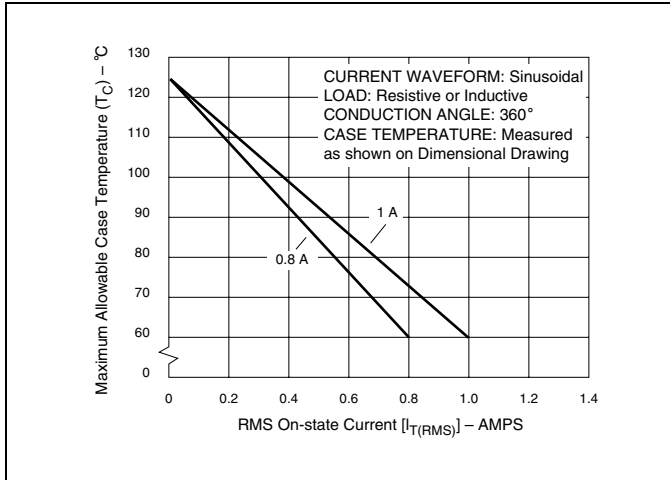
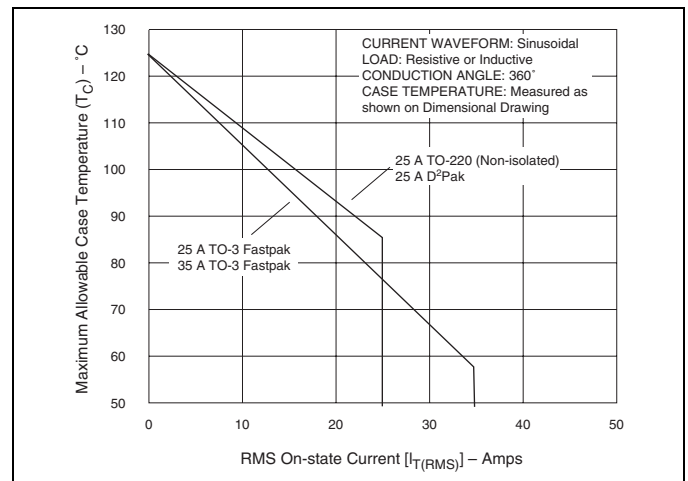
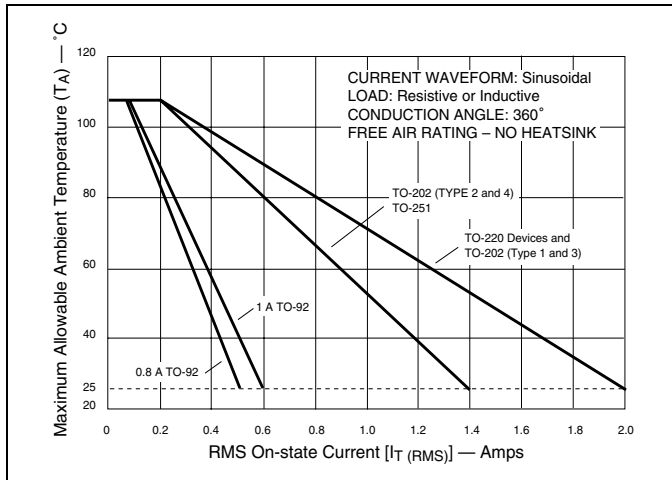
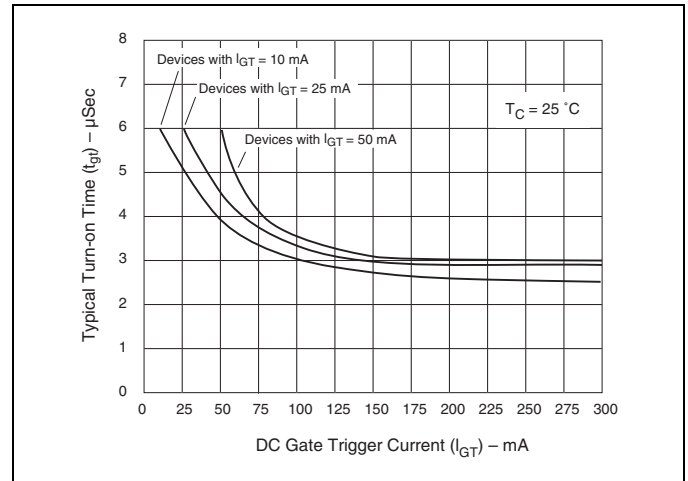

Figure E2.1 Maximum Allowable Case Temperature versus On-state Current (0.8 A and 1 A)
Figure E2.6 Maximum Allowable Case Temperature versus On-state Current (25 A and 35 A)
Figure E2.7 Maximum Allowable Ambient Temperature versus On-state Current
Figure E2.15 Turn-on Time versus Gate Trigger Current (Typical)
- (1) For either polarity of MT2 with reference to MT1 terminal
- (2) For either polarity of gate voltage (V_{GT}) with reference to MT1 terminal
- (3) See Gate Characteristics and Definition of Quadrants.
- (4) See Figure E2.1 through Figure E2.7 for current rating at specific operating temperature.
- (10) See Figure E2.15 for t_{gt} versus I_{GTM}.
- (11) See package outlines for lead form configurations. When ordering special lead forming, add type number as suffix to part number.
- (12) Initial on-state current = 200 mA dc for 0.8 A to 10 A devices, 400 mA dc for 15 A to 35 A devices
- (13) See Figure E2.1 through Figure E2.6 for maximum allowable case temperature at maximum rated current.
- (14) Pulse width ≤ 10 μs; I_{GT} ≤ I_{GTM}
(15) R_L = 60 Ω for 0.8 A to 10 A triacs; R_L = 30 Ω for 15 A to 35 A triacs
(16) T_C = T_J for test conditions in off state
(17) I_{GT} = 300 mA for 25 A and 35 A devices
(18) Quadrants I, II, III only
(19) Minimum non-trigger V_{GT} at 125 °C is 0.2 V for all except 50 mA MAX QIV devices which are 0.2 V at 110 °C.